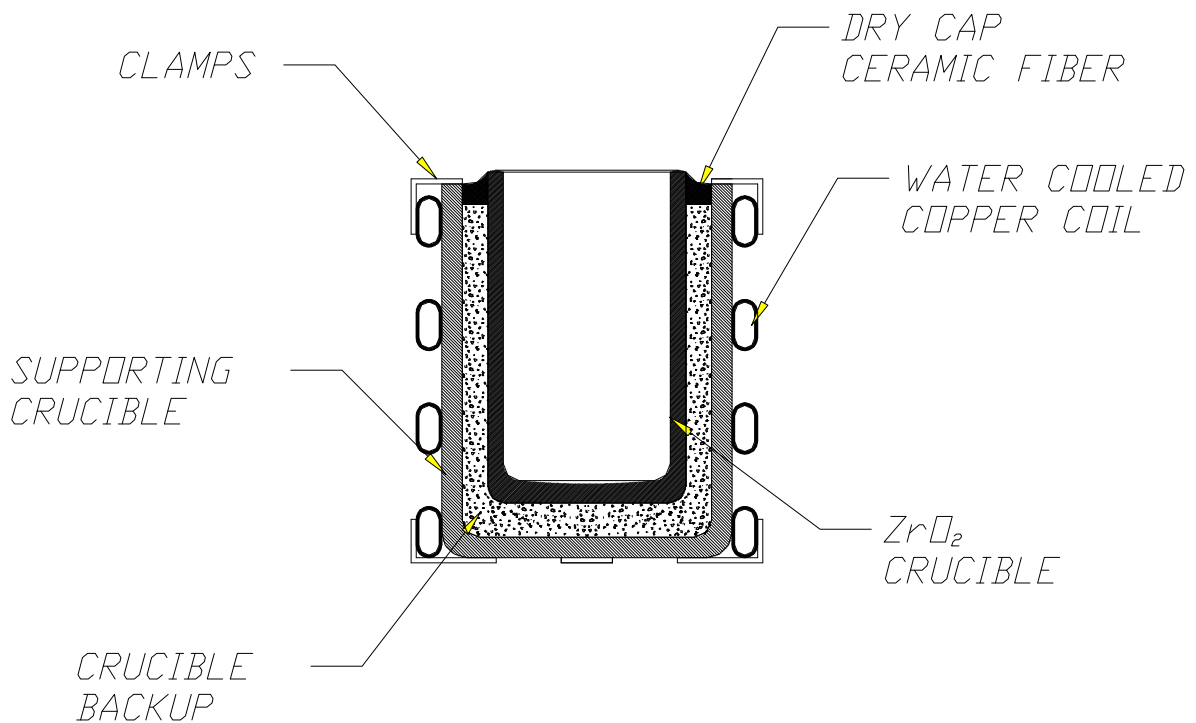

Figure 2. Representation of “Two Crucible” Installation
3.2. “Two Crucible” Installation (refer to Figure 2)